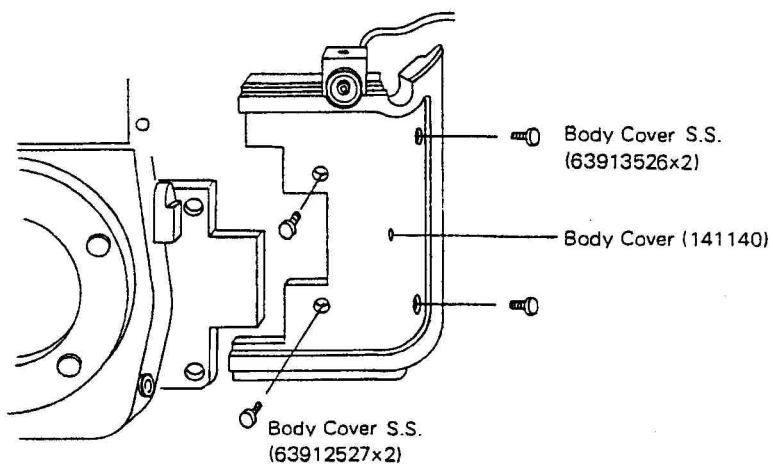

Fig. 6
- b) Remove the Body Cover S.S.(63913526x2, 63912527x2) and Body Cover (141140). (fig. 6)